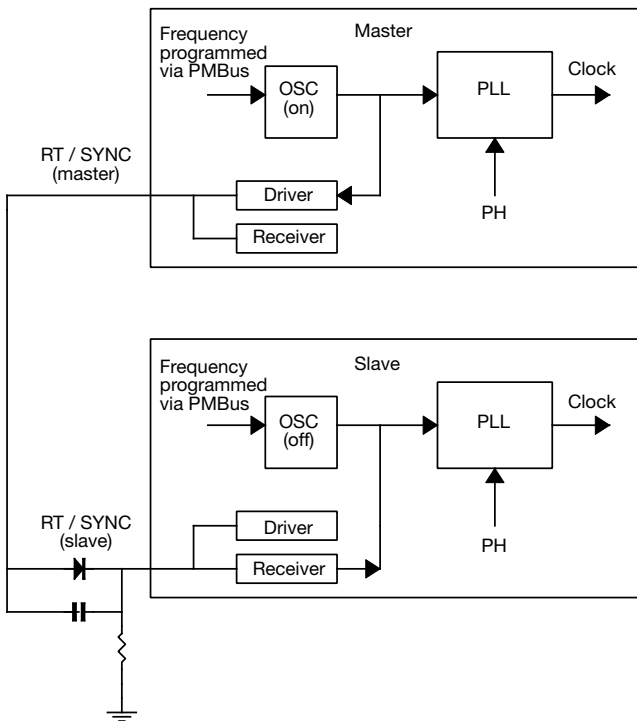

Fig. 9
- Operating frequency: the slave switching frequency will synchronize to the external clock or to the master clock. In case the external clock or master clock signal is lost, the slave will operate at the default frequency or to the frequency programmed via the PMBus. See Fig. 9